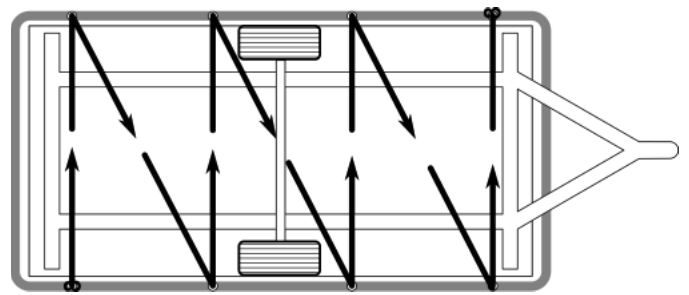

Figure 2: Fastening with the tensioning cable
- There are stitched on eyelets on the hem of the sides. Knot one end of the tensioning cable on the rearmost left eye. Pull the loose end of the tensioning cable through the other eyelets of the protective sleeve, as shown in Figure. 2.